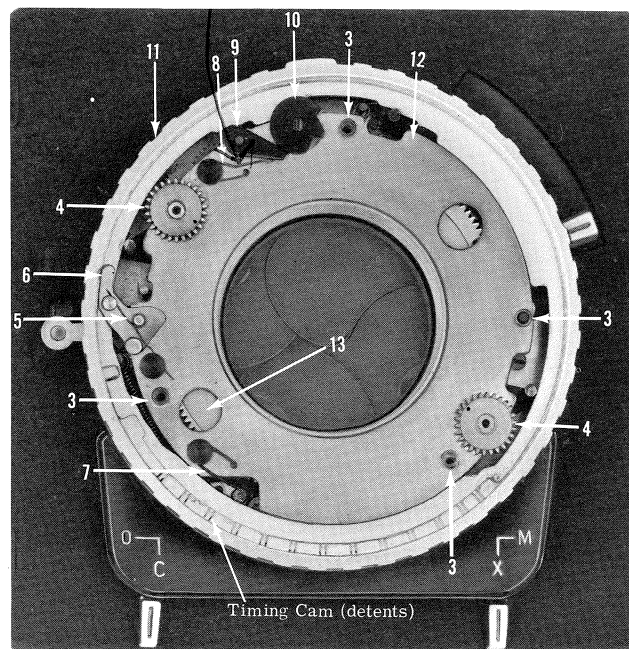
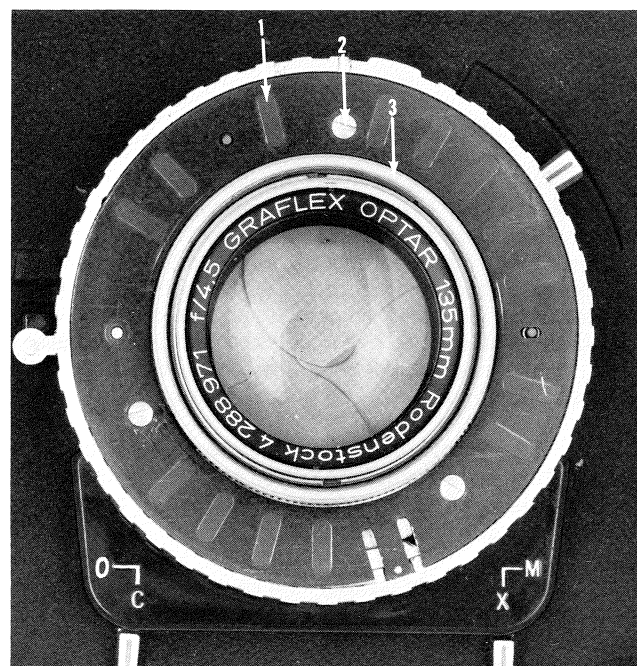

Figure 16.
Figure 17.
f. Place washer (13, Figure 16) and bearing plate (12) over lens opening.
Apply a thin coat of lubricant (39484P8) to bearing surfaces of winding knob gear (3, Figure 17) and position over lens opening. Thread lens adapter tool into lens opening.
g. Apply a thin coat of lubricant (39484P8) to inside bearing surfaces and detents on timing cam (11, Figure 16). Orient timing cam on front housing by locating the red dot on cam opposite the "0" position on the timing scale. Using an offset counterclockwise movement, compress the second timing dog post within the inside diameter of the cam. Continuing with the offset counterclockwise movement, compress the third timing dog post, and finally, the first timing dog post. With all posts contained within the inside diameter of the cam, the cam will snap into position.
h. Apply a thin coat of lubricant (39484P8) to periphery of cam stop (10), and assemble cam stop and stop pawl (9) as shown. Assemble pawl stop spring (8), synchronizer lever spring (7), bulb lever assembly (6) and bulb lever spring (5).
j. Apply a thin coat of lubricant (39484P8) to pinion, journal and gear teeth on two winding pinions (4). Insert winding pinions through their respective holes in bearing plate, facing timing marks on pinion toward inside and visually aligned with center of shutter.
k. Place four cover spacers (3) over four holes in bearing plate as shown. Locate bearing
plate cover (1, Figure 17) over bearing plate. Apply small amount of adhesive (39490P2) to threads of three screws (2) and secure cover. Front and rear lens elements are not assembled into shutter at this time. Elements are assembled after all shutter tests have been made.